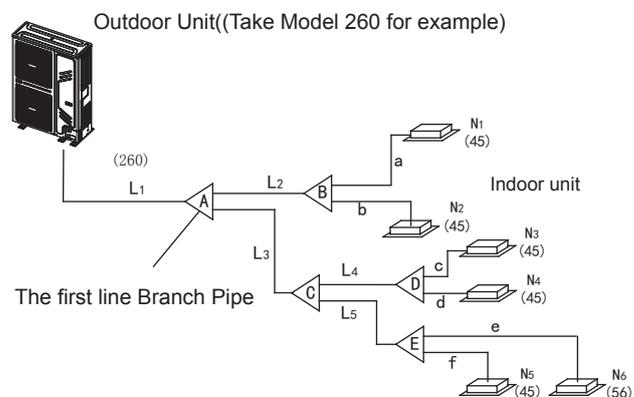

Fig. 4-6
- Main pipe (Please refer to Fig.4-6 and Table 4-4)
In Fig.4-6, the main pipe L1, the outdoor unit capacity is 26kW, and check the Fig.4-6 to get the size of gas pipe/liquid pipe is $\Phi 22.2/\Phi 9.5$, and also the total equivalent length of liquid side and gas side pipes is > 90 m, then check the Table 4-4 to get the size of gas pipe/liquid pipe is $\Phi 25.4/\Phi 9.5$, and according to the maximum value principle, it should apply the $\Phi 25.4/\Phi 9.5$.